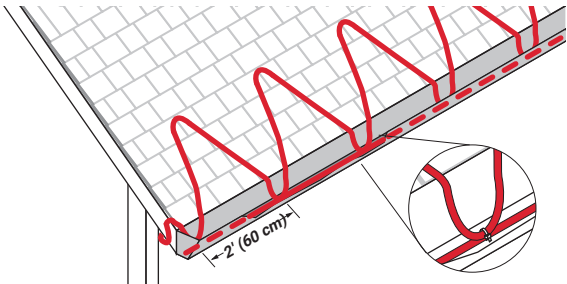

Figure 5: Layout in a zig-zag pattern
For sloped roofs, ice dams may form at the roof edge. To maintain a continuous path for melt water runoff, route the heating cable in a zig-zag pattern as shown in Figure 5 and follow the appropriate attachment recommendations in “Attachment Methods”, page 30. Additional heating cable may be needed for other gutters, downspouts, and valleys.
- Install the heating cable on the roof in a zig-zag pattern as shown in Figure 5.
**Important: Attachment methods are not shown in Figure 5. For attachment methods, proceed to “Attachment Methods”, page 30.**